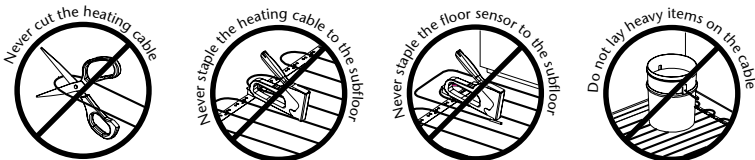

Fig. 1.3
- Shorten or alter any part of the heating cable (Fig. 1.3);
- Staple heating cable or floor sensor end to the subfloor (Fig. 1.3);